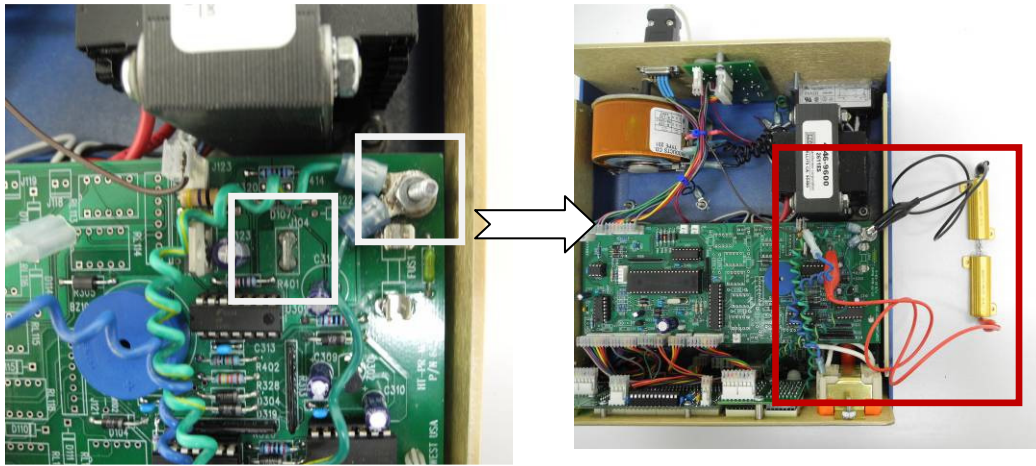

Figure 10. Ground Continuity Calibration Points from J110 to Chassis Screw.
9. Connect an external resistor of 1.0Ω ($\pm 1\%$ tolerance) has is shown on figure 10.
12. Connect an external resistor of 0.2Ω ($\pm 1\%$ tolerance) has is shown on figure 10.